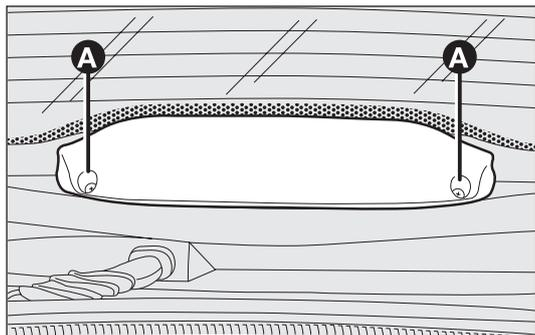

fig. 157
- undo the two screws A-fig. 157 and remove the whole cover;